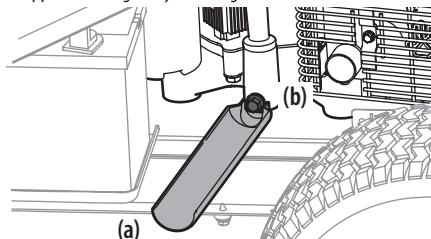
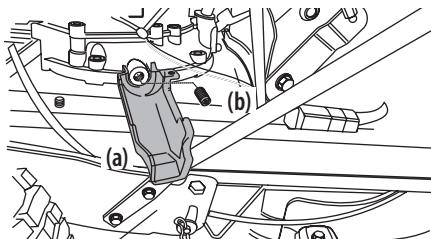

Figure 23
Figure 24
- Snap the small end of oil drain sleeve (a) onto the space provided around the oil drain plug (b). See Figure 23 or Figure 24 for the two possible oil drain sleeves and refer to the applicable image for your riding mower.